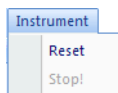

Figure 3-11: Instrument Menu
The **Instrument** menu (Figure 3-11) resets or stops the BLItz Pro system during an experiment. Table 3-4 describes the menu commands and their respective functions.
7. Access any Experiment type by clicking the icons in the left pane, or by clicking the **Experiment** menu (Figure 3-11: on page 21).